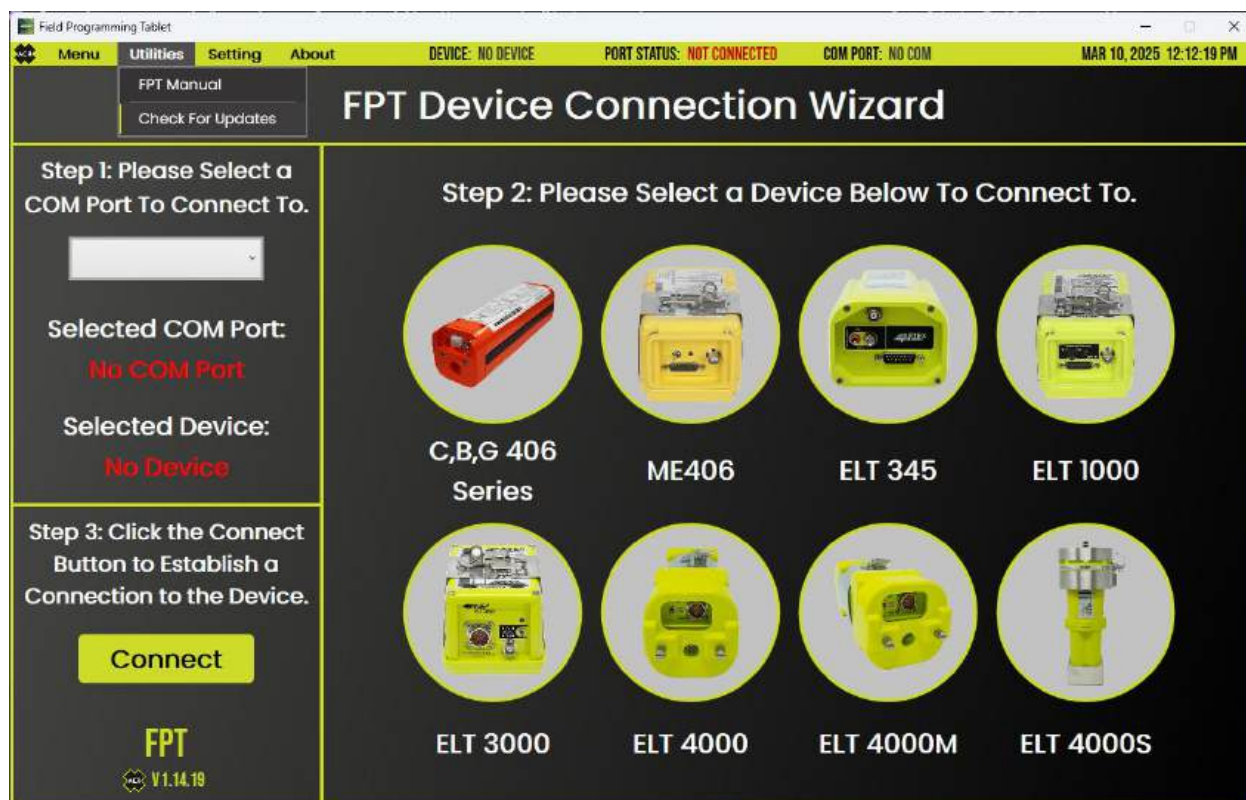

Figure 31 - FPT Manual Update Check
2. Select the **Utilities** menu item at the top of the screen then select **Check for Updates** (Figure 31). This manually checks the server for an update.